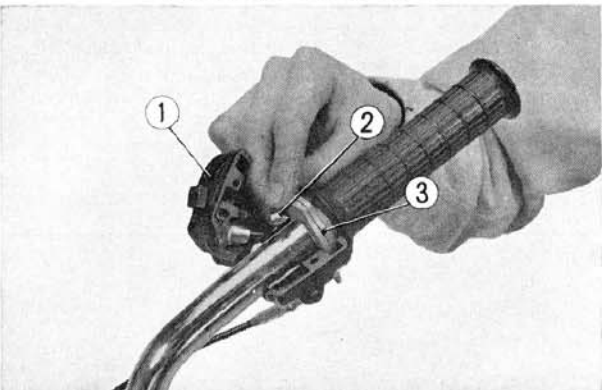

Fig. 16-17 ① Starter lighting ignition switch assembly
2. Disconnect the throttle cable from the throttle control and then remove the throttle cable connector from the switch lower side. (Fig. 16-17)